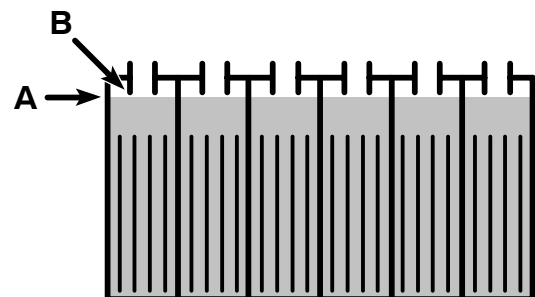

FIG. 24
3. Check the electrolyte level (A) in each battery cell **after charging batteries**. The level should be approximately 1 cm (0.38 in) from the bottom of the fill-port (B) (Figure 24). Add distilled water if needed. DO NOT OVERFILL.